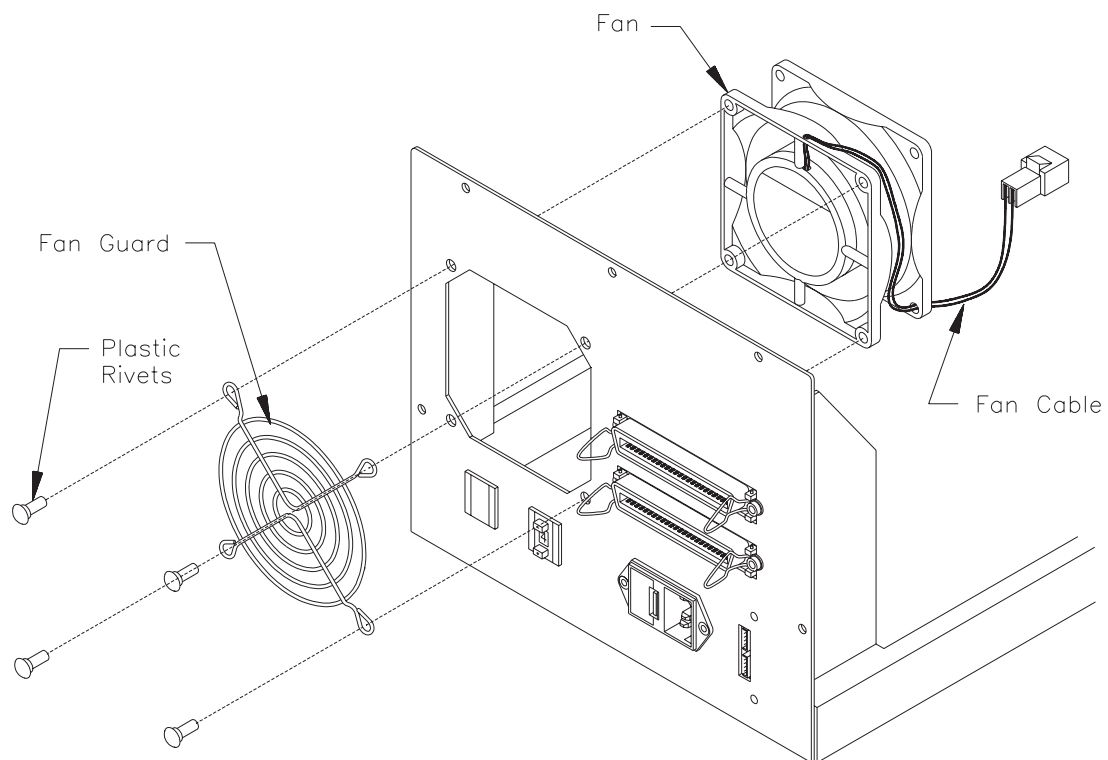

Figure 16-1 Fan (rear view of the CHS)
- a. Locate the fan and the four plastic rivets that hold it in place, as shown in Figure 16-1.
3. Place the fan guard on the back of the CHS, as shown in Figure 16-1, and align it with the fan.
3. To reach the SCSI ID switch more easily, move the fan. To do this, use a flat-blade screwdriver to remove the four plastic rivets that hold the fan in place (see Figure 16-1). Set the fan aside. You do not need to disconnect the fan cable.